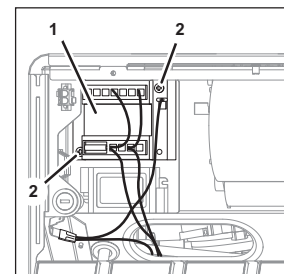

Fig. 42
1. Disconnect all electrical cables from the transformer (Fig. 42/1).
2. Remove the fastening bolts (Fig. 42/2) from the transformer (Fig. 42/1).
3. Remove the transformer (Fig. 42/1) from the unit.
4. Position the new transformer (Fig. 42/1) within the unit.
5. Attach the transformer (Fig. 42/1) to the unit with the attachment bolts (Fig. 42/2).
6. Connect all electrical cables to the transformer (Fig. 42/1).